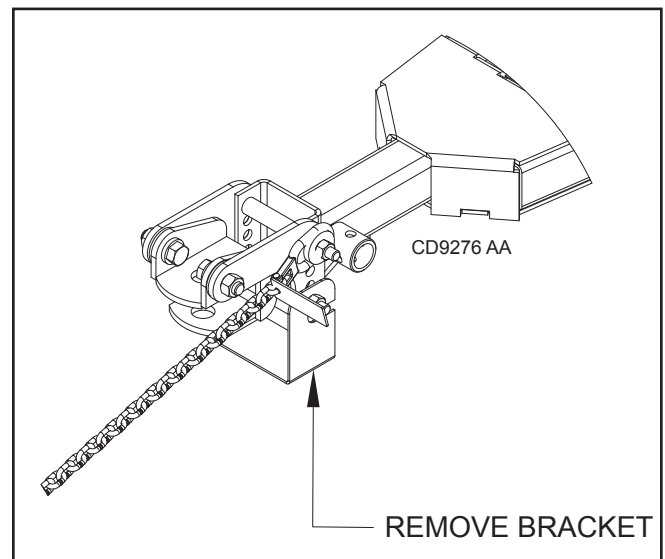

Figure 29. Remove Shipping Hardware
10. Remove front shipping bracket channel shown in Figure 29 and retighten hardware to 170 ft-lbs.